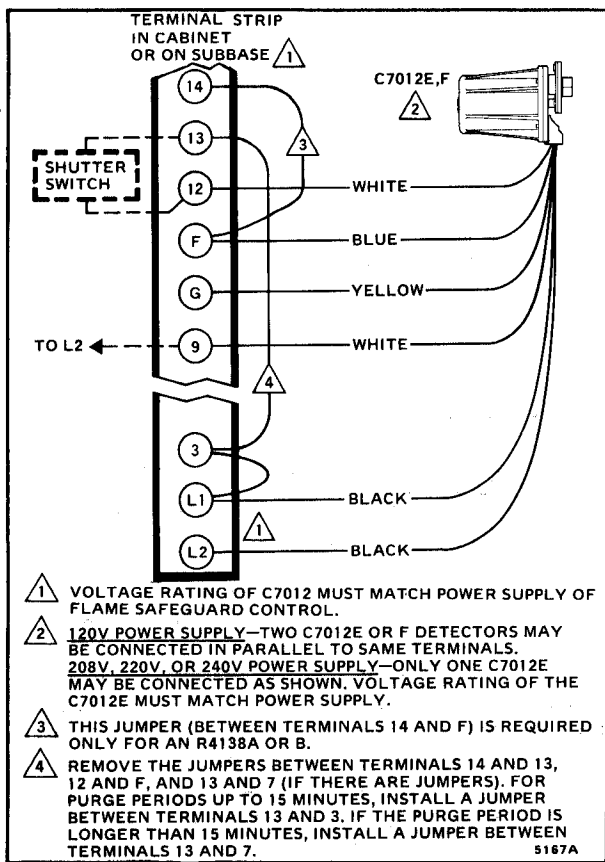

FIG. 6—WIRING DIAGRAM FOR ALL MODELS OF THE R4138; SIGHTING AXIS WITHIN 45 DEGREES OF HORIZONTAL.
7. Refer to Figs. 6 through 15 for wiring connections.